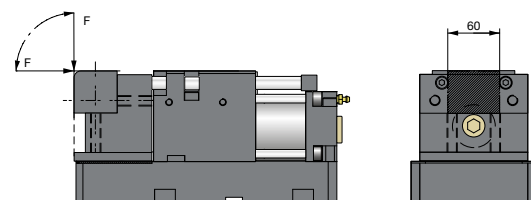

Fig. 12c: Load transfer
The customer's tool (e.g. flanging cheeks) (1) should be mounted using two or four mounting screws in the tapped bores (2) provided (Fig. 12c).